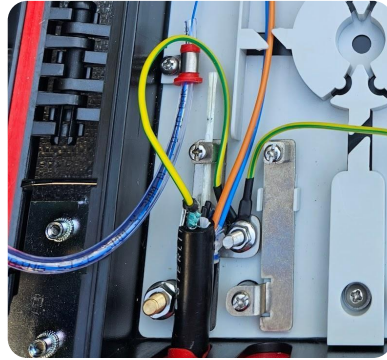

Fig. 5b
- Place the jacket at least 1" (25mm) from the closure wall as shown in Fig. 5b